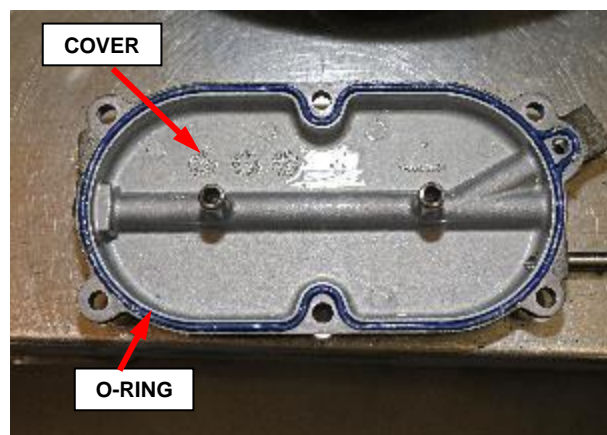
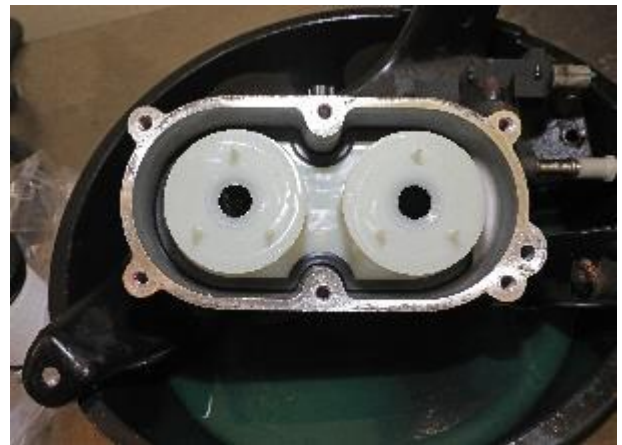

Figure 58 – Cover O-ring
Figure 59 – Screen Installed
102. Remove and discard the old cover O-ring. Lubricate the **NEW** seal with clean diesel and install it into the channel in the cover (Figure 58).
- 103. Install the **NEW** screen into the housing as shown in Figure 58. Check that the screen is fully and evenly seating into the housing (Figure 59).